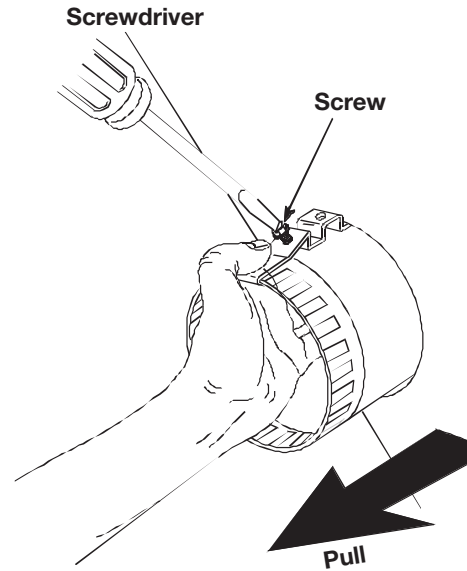

Figure 6
7. Pull flex pipe through hole until clip “snaps” into place. Maintain position with one hand while securing screw with the other hand. See Figure 6.